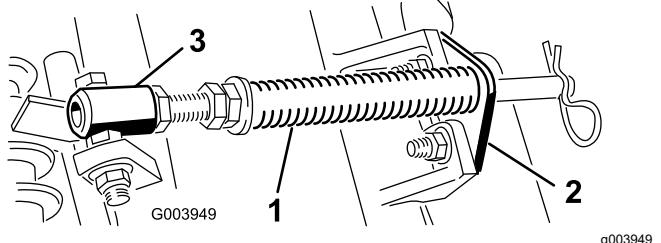

Figure 5
1. Remove the 2 carriage bolts and nuts securing the rod bracket to the cutting-unit tabs (Figure 5).
2. Remove the flange nut securing the spring-tube bolt to the carrier-frame tab (Figure 5), and remove the assembly.